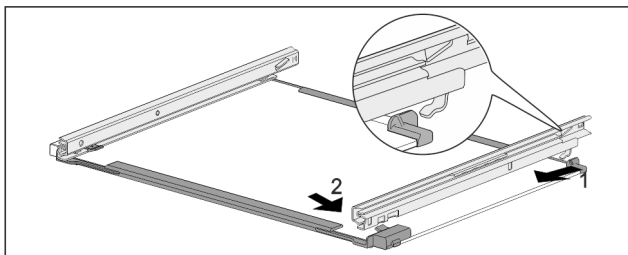

Fig. 174 Glass shelf with rails
- Hook in rail at the back. Fig. 174 (1)
- Hook in rail at the front. Fig. 174 (2)